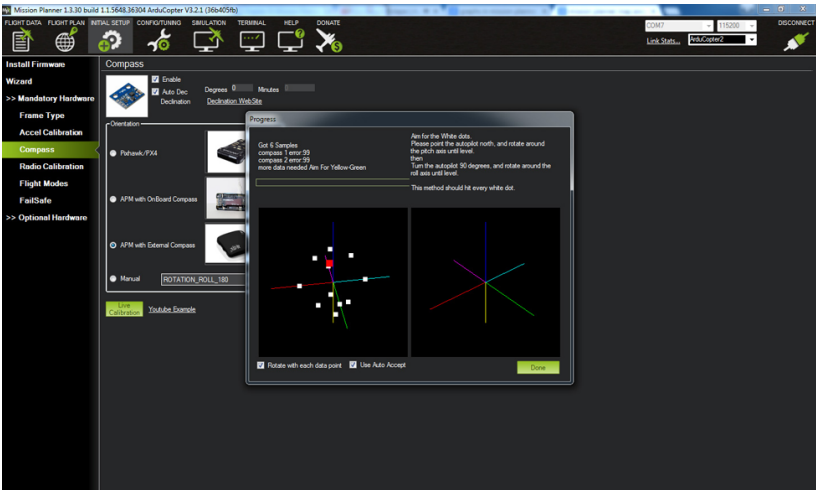

Figure 9-11. Compass calibration.
- c. *Perform calibration:* Now that we have established the orientation of our compass, we can calibrate it (see Figure 9-11). Click the Live Calibration button at the bottom of the main application window and follow the instructions Mission Planner issues. This step may take a few minutes as the application asks you to rotate the aircraft around all possible axes so that it can take sample points in a virtual sphere. Just take your time and follow the directions until Mission Planner tells you that the calibration has passed. If, for some odd reason, it fails, don't worry about it. Just run the calibration again and be sure to move around all axes of the compass.